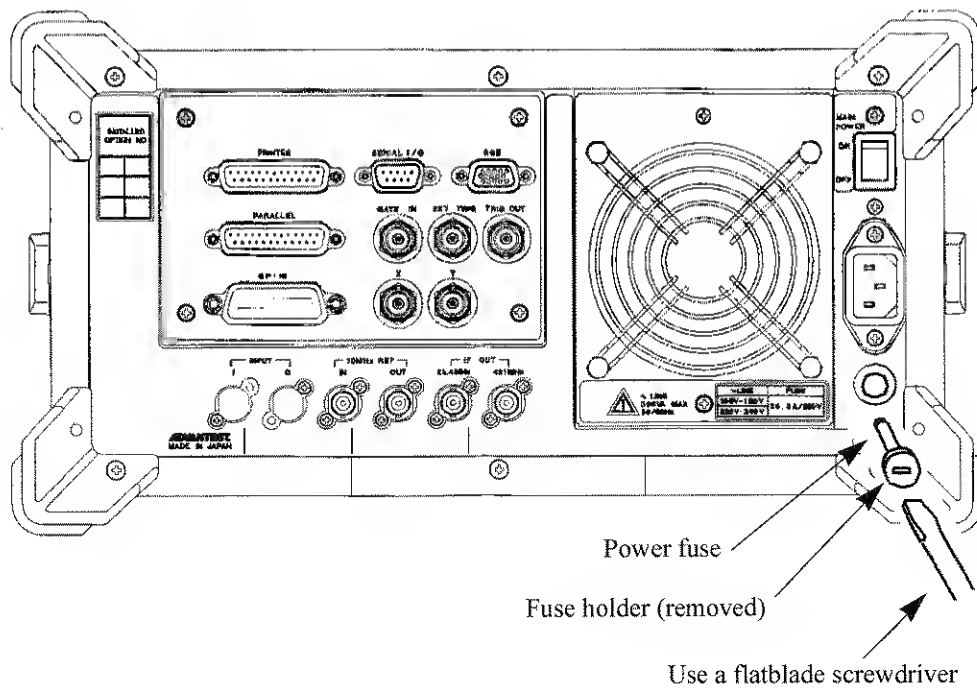

Figure 1-2 Replacing the Power Fuse
4. Remove the fuse holder on the rear panel (See Figure 1-2).